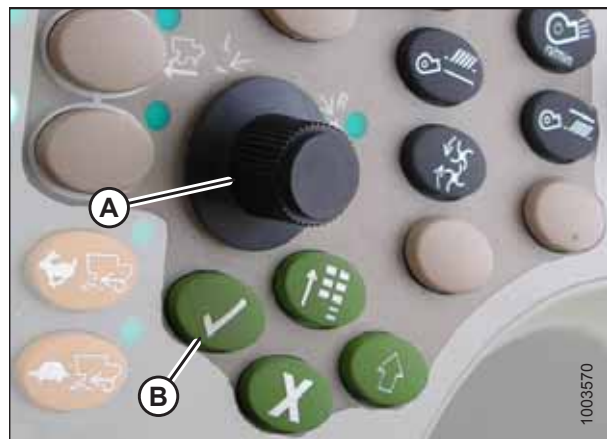

Figure 3.453: John Deere Combine Control Console
7. Select HEADER in box (A) by scrolling down to the box using the scroll knob, and then pressing the check mark button (knob and button are shown in Figure 3.453, page 260).
8. Scroll down to the lower right icon that resembles an arrow in a diamond (B) and press the check mark button to select it.